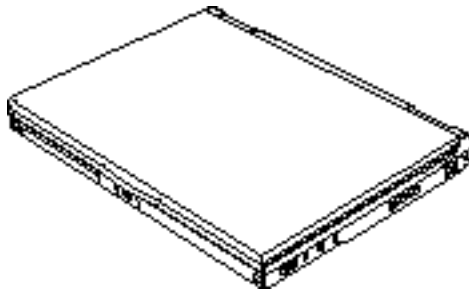

Figure 1-1 LifeBook 600 Series Notebook
- LifeBook 600 Series from Fujitsu. (Figure 1-1.)